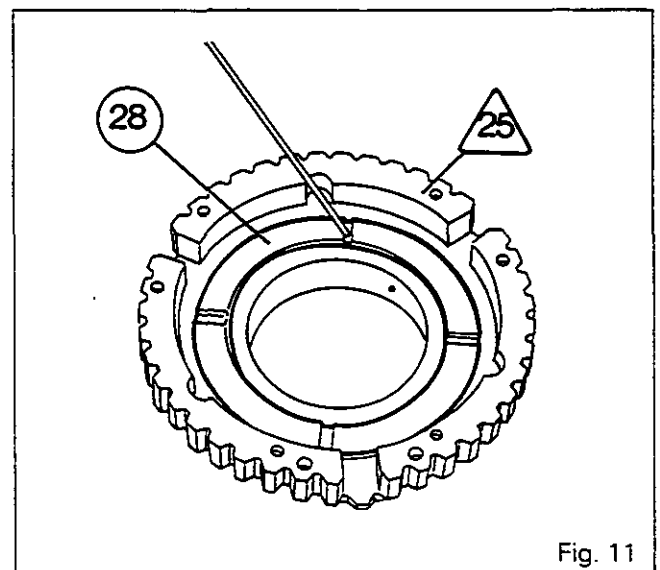

Fig. 11
25. Take out splined hub (15).
26. Take out pressure plate (41), disc (42), spring washer (43), pressure plate (44), disc (45), spring washer (46) and pressure plate (47).
27. Withdraw piston (28) from cover /25\ (Fig.11).
28. Remove O-rings (26) and (29) and discard them.
N.B. : In the super creeper version, cover /25\ and piston (28) differ from those in the 30 and 40 km/h versions. The cross-sectional area of the piston is greater and this means that the diametric cutouts in the cover are larger.